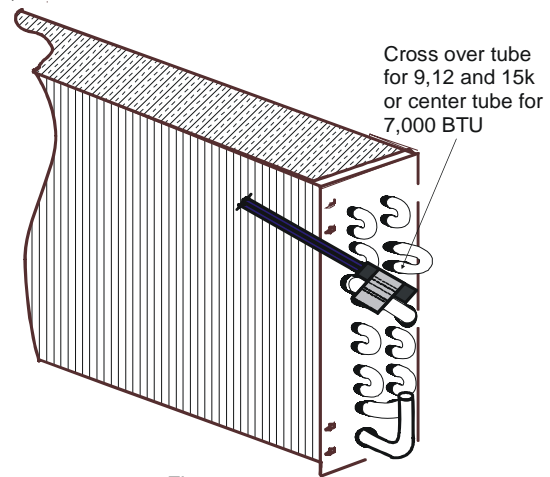

Figure 8
D. If the existing **Outdoor Coil Thermistor** (with the **BLUE** wires) was connected to the board by a plug-on connector, reconnect it to the new board on the **OCT** (blue) terminals. If the previous board used indoor coil bi-metals, remove and discard the bi-metal devices. The Indoor Coil Thermistor will need to clip on the crossover tube shown in Figure 8. There will be two clips supplied in the kit for the Blue Thermistor. One clip as supplied on the sensor will fit 5/16" tubing used on the bent coil, and an additional clip (loose in the bag) will fit 3/8" tubing used on the flat slab coil. If you have a slab coil, you will need to remove the 5/16" clip from the sensor and replace it with the 3/8" tube clip. Connect the Outdoor Coil Thermistor to the board as noted above. Outdoor Coil Thermistors are only used on Heat Pump models; **DO NOT INSTALL THIS SENSOR IF THE UNIT IS NOT A HEAT PUMP.**